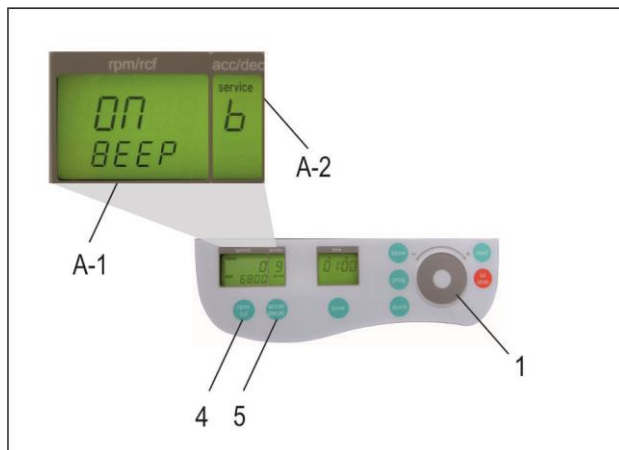

Figure 5
Proceed as illustrated, under point 1.8.2, to enter this program mode, press the key, "accel/decel" (5). In the display, "accel/decel" (A-2) flashes the word, "service". Select the letter "b" with the control field (1). As a result, appearing in the display, "rpm/rcf" (A-1), the word "ON/BEEP". After pressing the key, "rpm/rcf" (4), turn the keyboard sound (On) or (Off), with the rotary field (1), (see Figure 5).